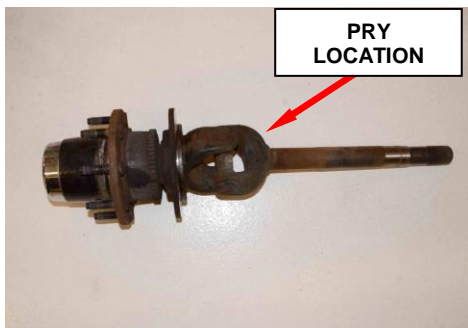

Figure 5 – Axle Shaft
9. Remove Axle shaft assembly, using moderate force; pry in location shown (Figure 5, and 6).